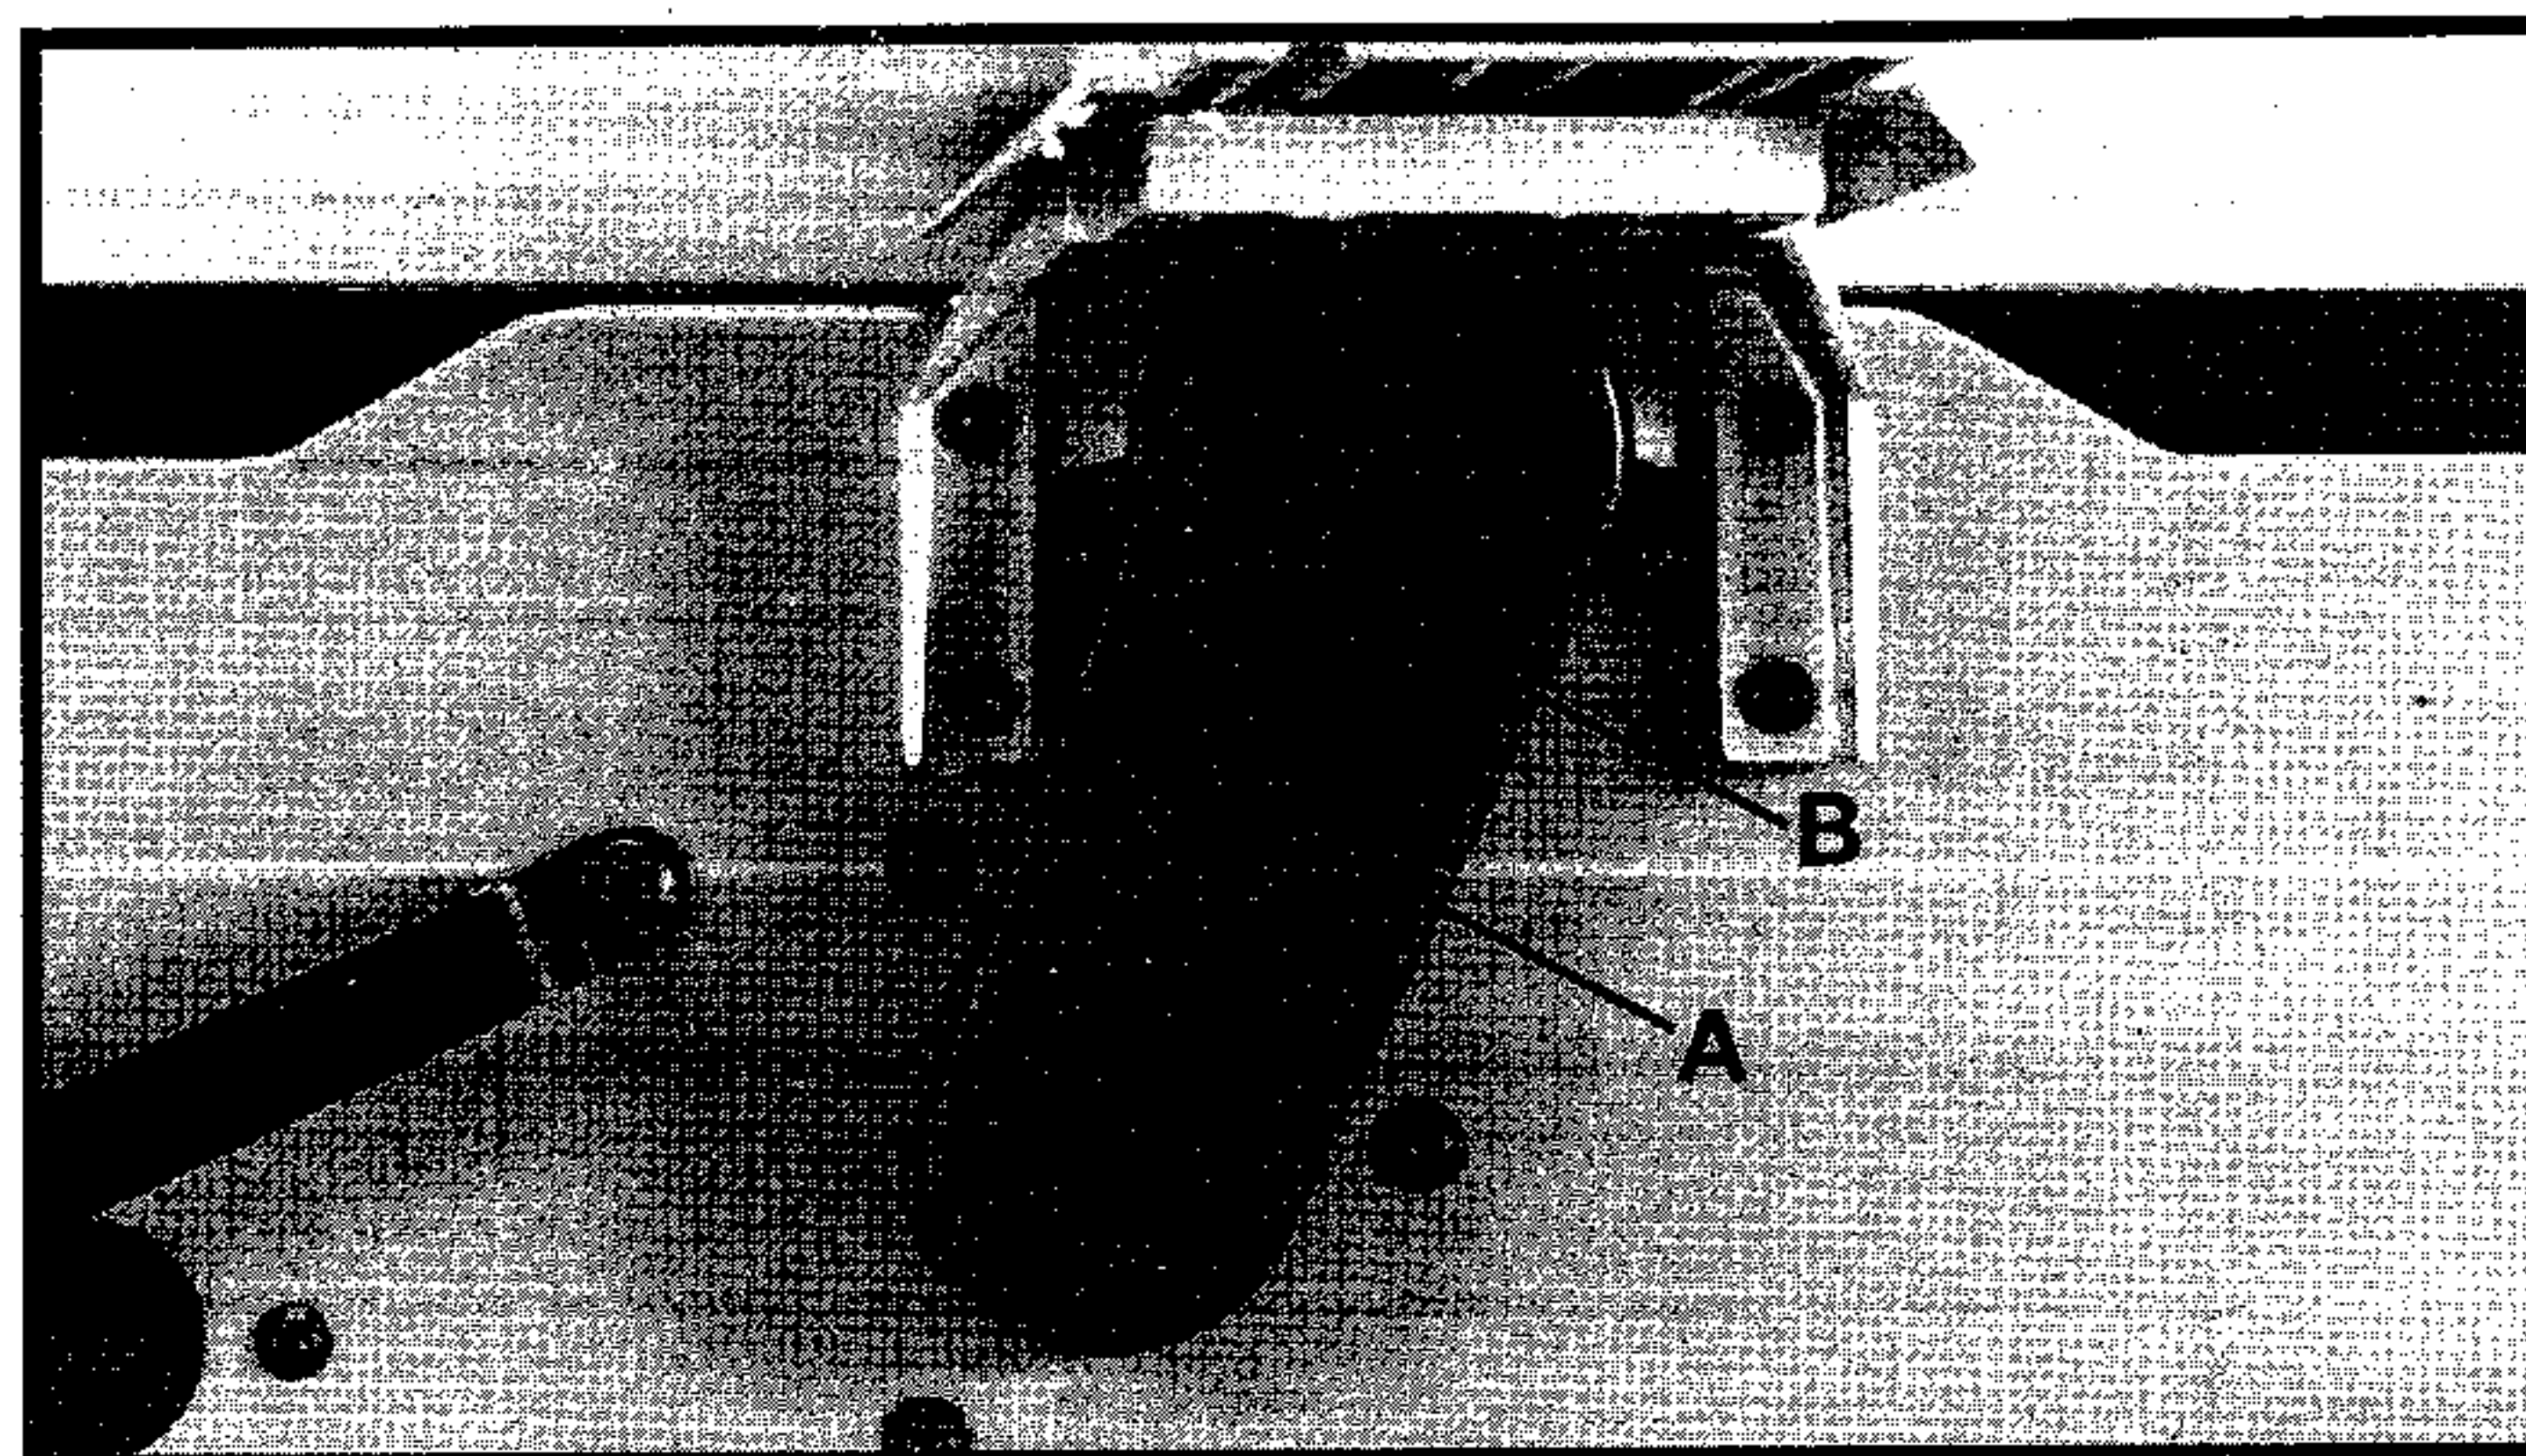

Fig. 44
1. Remove screw (A) Fig. 44, using hex wrench supplied, and remove belt guard (B).
4. Replace belt guard (B) Fig. 44.